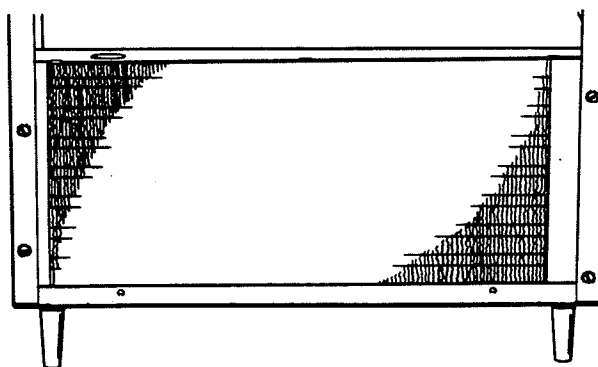

Figure 34. Condenser
3. Visually inspect the condenser for dirt by shining a light through the coil from the back (inside) of the condenser (Fig. 34).